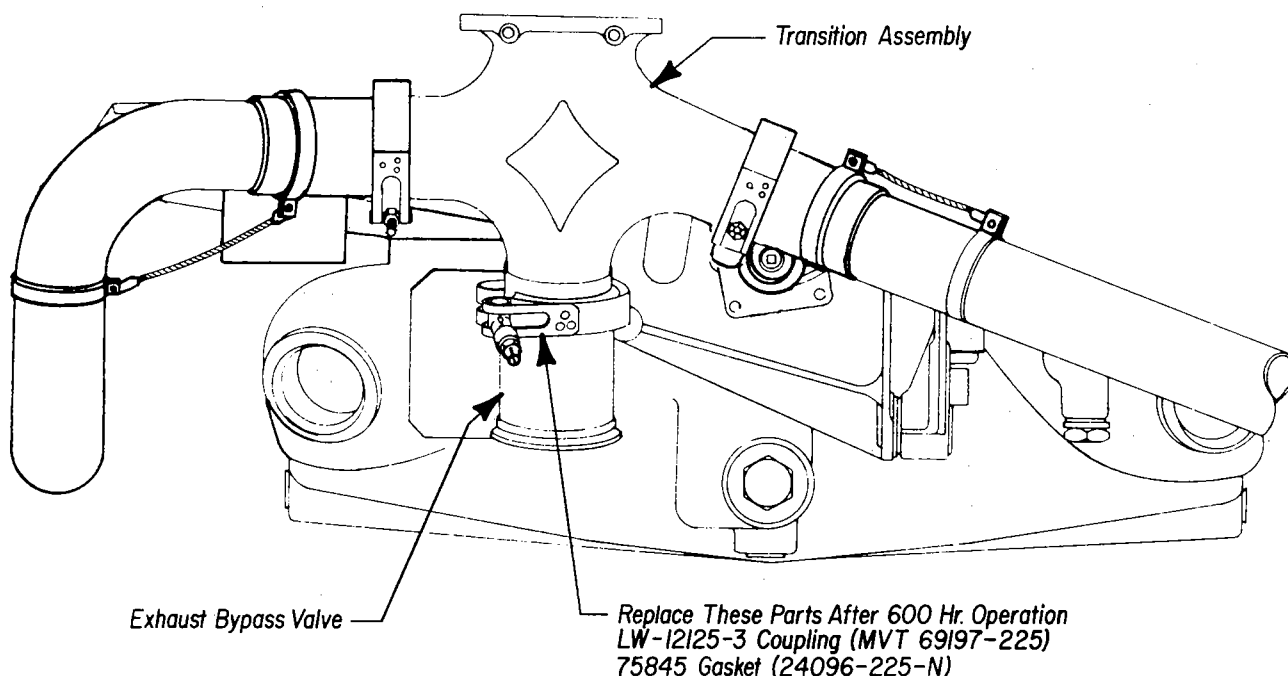

Figure 1. Diagram of Rear Portion of Engine Showing Location of Coupling to Attach Transition Assembly and Exhaust Bypass Valve
1. Loosen the nut that attaches the Marmon clamp located between the transition assembly and the exhaust bypass valve. See figure 1. Remove the clamp and gasket.